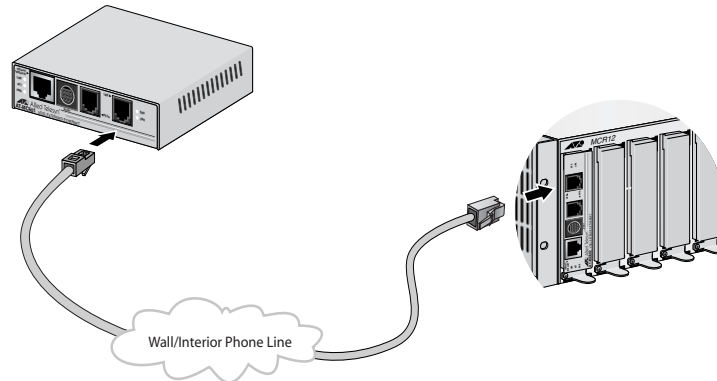

Figure 22 VDSL Line to Wall/Interior Phone Line
3. Next, connect a telephone line cable from the VDSL Line port to the wall/interior telephone line, as shown in Figure 22, so that the Provider unit can communicate with the Subscriber unit.